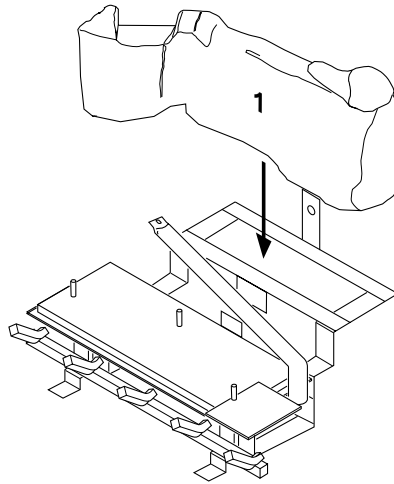

Figure 51 - Installing Log No. 1
1. Place log #1 (back log) on grate. Make sure the lower middle section of the log fits securely into the open area in back of grate (see Figure 51).